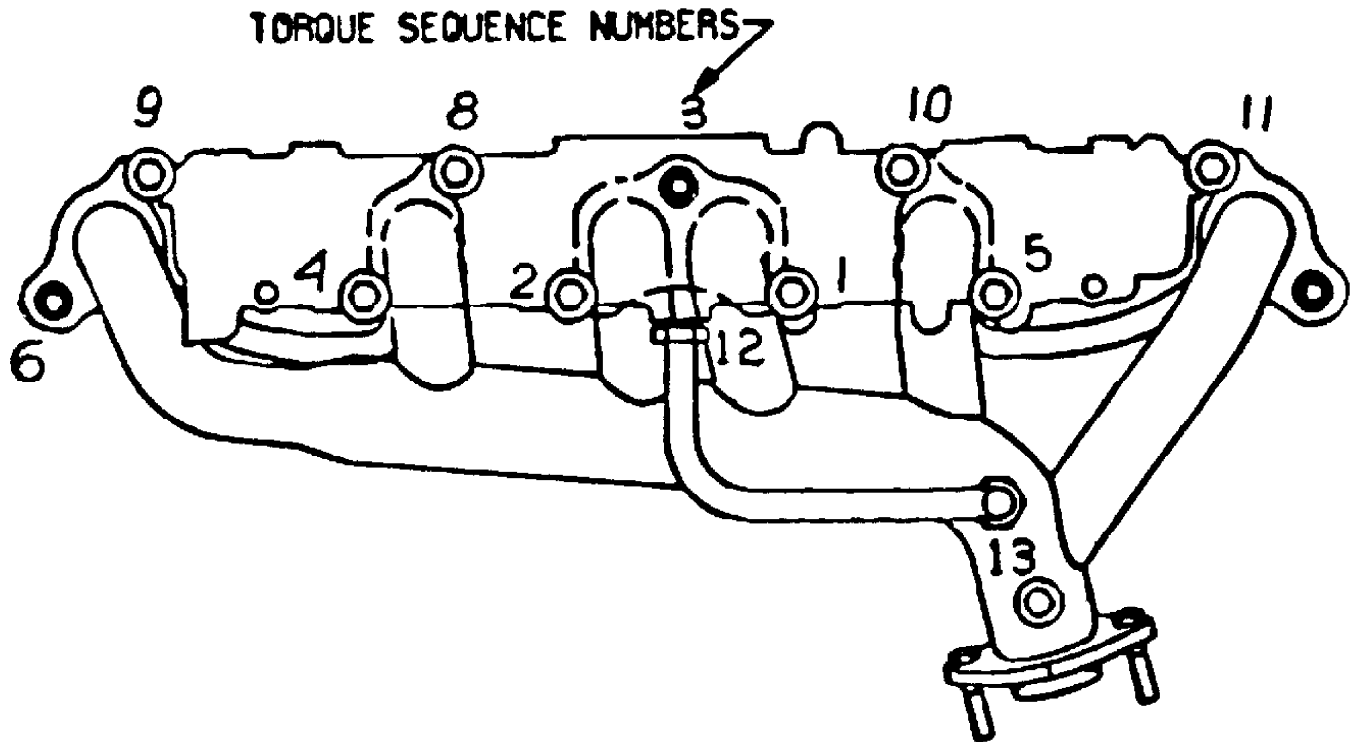

Fig. 1: Manifold Tightening Sequence (4.0L)
1) Install new gasket. Install exhaust and intake manifolds and loosely install bolts. Install EGR tube between manifolds. Tighten manifold bolts in proper sequence see Fig. 1. Tighten to specifications, see TORQUE SPECIFICATIONS TABLE in this article.